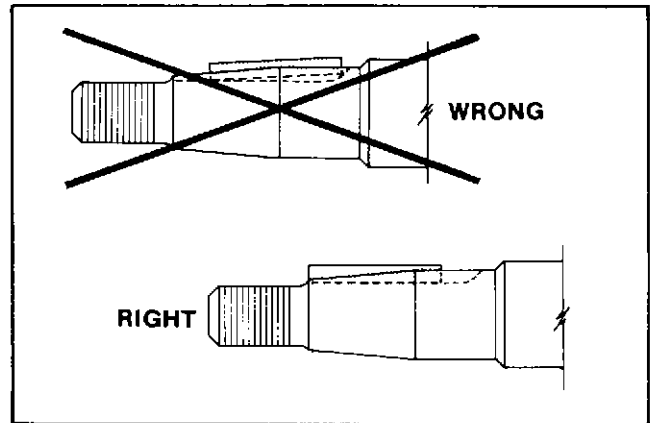

Figure 8-17. Right and Wrong Way to Install Flywheel Key
the key rides up on the rounded surface at the end of the keyway, as shown in Figure 8-17, it will act as a wedge and crack the flywheel hub.
- Position key properly in keyway as shown in Figure 8-17 and carefully guide key slot in flywheel hub over the key, to avoid pushing the key inward.